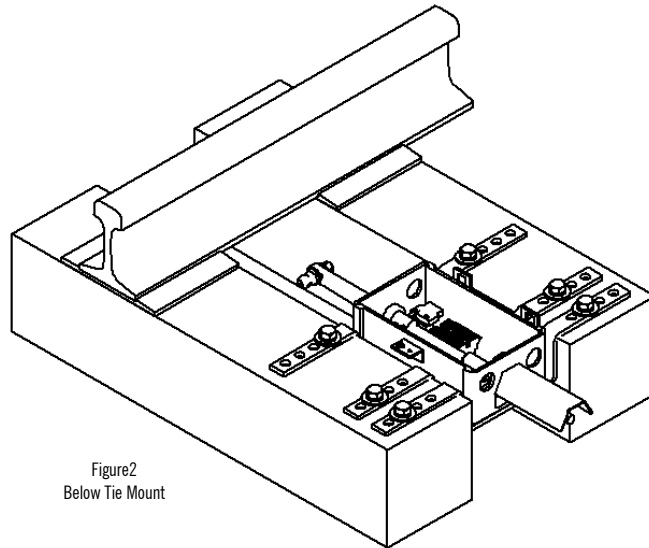

Figure2
2. **Saddle Mount: (see figure 2)**